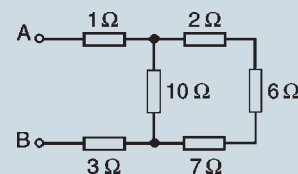

Figure 15.92
7. The equivalent resistance across terminals AB of Fig. 15.92 is: